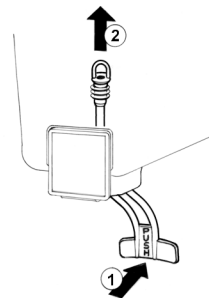

figure 4
- 5 Pinch tube faucet:** push the dispensing handle (1) and
take the pinch tube off from its seat (2) (see figure 4).